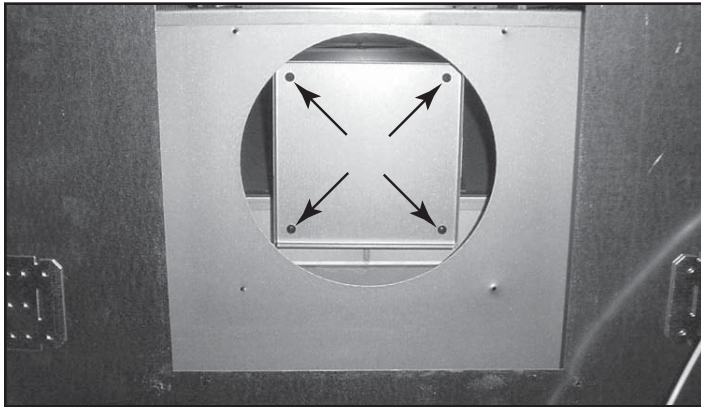

Figure 7.6 Inner Cover - Remove Four Screws
- Remove four screws holding inner cover plate to appliance back. See Figure 7.6. Remove inner cover.